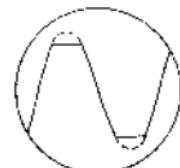

Fig. 21. Waveform when the dummy load resistor is 2.7Ω
4. At this condition, set dummy load resistor switch to "2.7Ω" position and turn operating point adjustment semi-fixed resistor VR-5 counter-clockwise to the point at which the output waveform is erased and from this point, turn clockwise again about 20° from erased point. With a 2.7Ω dummy load resistor, the waveform will appear as shown in Fig. 21.